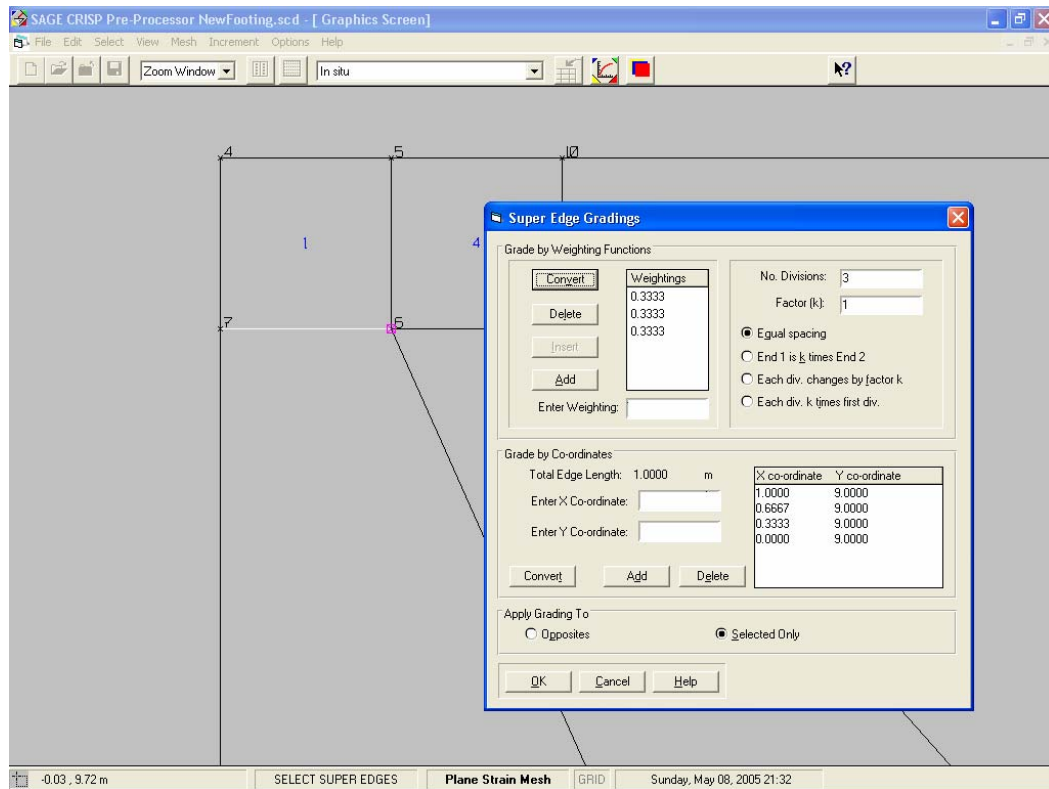

Figure 14 Defining Edge Gradings near the footing corner
- Step 20** Enter '3' into the Number of Divisions text box and click on the Equal Spacing. option. Weighting values will be automatically entered and the dialogue box should now look like Figure 14.